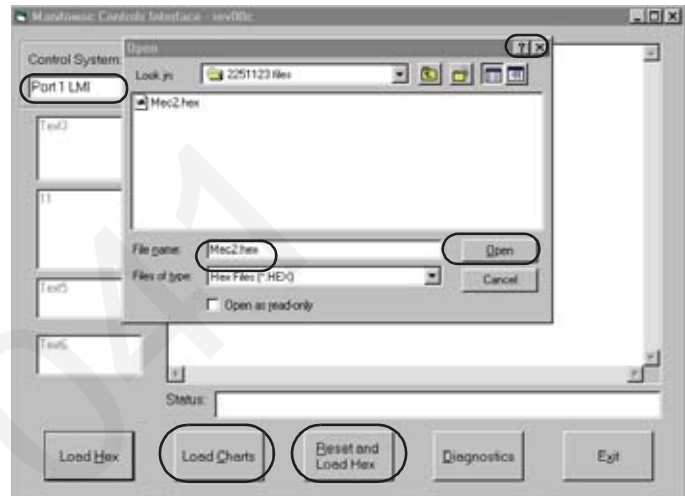

FIGURE 12
8. Press **Reset and Load Hex** button in lower center (see Figure 12). A screen will drop down called **Open**.
10. Locate and click on **Mec2.hex** icon to select file and then click on **Open** button (see Figure 12). The hex file will now download the program. A screen displays bootstrap information during download process and controls application shows data address.
3. **Maniwoc Controls Interface - rev00c** screen is displayed (see Figure 12).
4. Select desired laptop serial port to be used as well as "LMI" (see Figure 12).